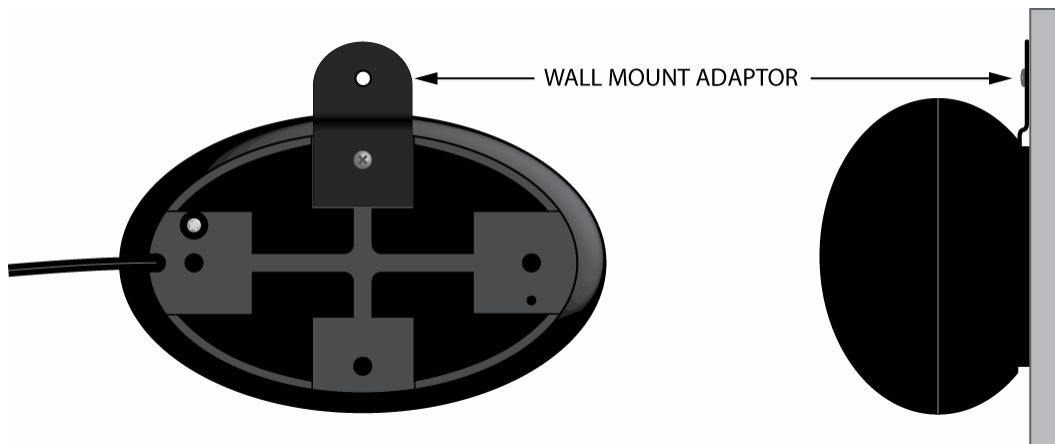

Figure 13. IR Sensor Wall Mount Adaptor
1. Attach the **Wall-Mount Adaptor** to the **CRS-IRS** as shown in **Figure 13**.